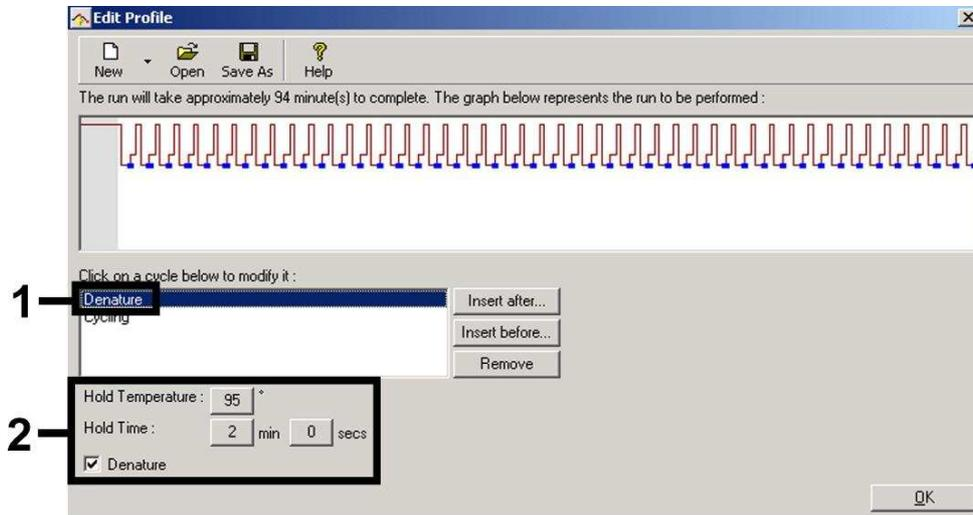
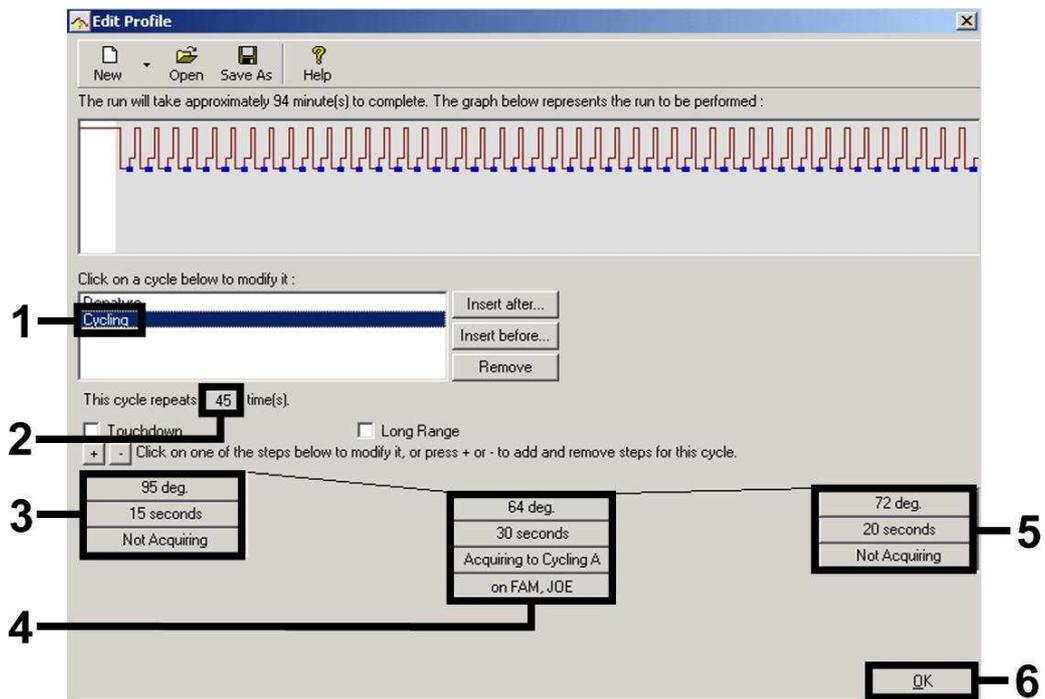

Fig. 4: Initial Activation of the Hot Start Enzyme.
Fig. 5: Amplification of the DNA.
- B. Initial Activation of the Hot Start Enzyme Fig. 4
- C. Amplification of the DNA Fig. 5
Programming the temperature profile is done by activating the button *Edit* in the next *New Experiment Wizard* menu window (see Fig. 4 and Fig. 5).